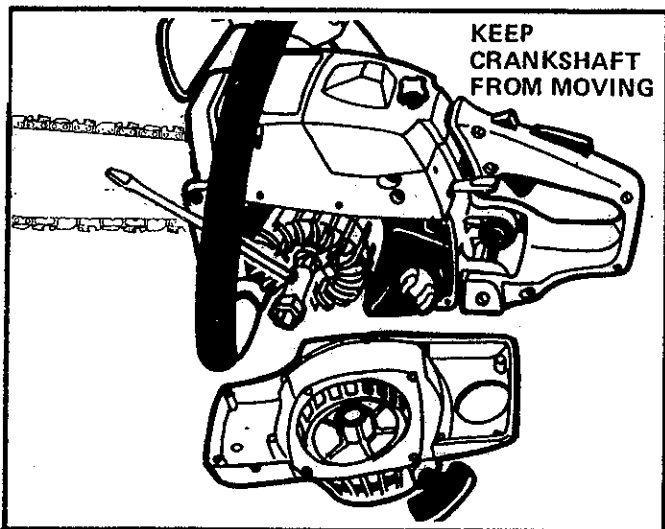

Figure 49
4. Use a 9/16" socket wrench on the flywheel nut to keep the crankshaft from moving. Figure 49.
- NOTE:** Place the socket handle forward as shown in Figure 49 .